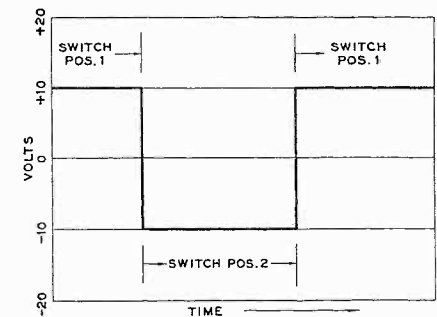

Fig. 2. Chart of the voltage across R.
Let us then draw a horizontal line which represents units of time along its length. Its altitude represents zero potential; positive potentials are drawn above the line, the distance proportional to magnitude, and negative potentials are drawn below the line. A scale along the left-hand margin, if furnished, is calibrated in units of magnitude, and other lines identified by the scale are often supplied. This is shown in Fig. 2. Now we are about to plot the voltage across R, with the potential at the bottom end of R as reference. Suppose we begin the chart while the switch is in position 1. Obviously the voltage at the top of R is +10, and will remain at that value until the switch is moved to position 2. So long as the switch is not moved, the chart is a horizontal line at the +10-volt level that moves to the right as time elapses. When S is snapped to position 2 the voltage abruptly changes to -10, and the chart line must be drawn sharply downward to the -10-volt level. There it remains, moving to the right as time goes on. If the switch is put back into position 1 the voltage reverses polarity almost instantaneously, going back up to +10 volts. Our chart line moves abruptly upward again to the +10-volt line, where we shall let it stay until it moves off the chart at the right-hand end.
In a similar way we can produce resultant curves, which are again approximately straight lines, for other combinations of grid voltages. If the grid input is such as to drive the first grid 10 volts positive from its bias value, that is, to -60 , the same swing will drive the second grid 10 volts negative to -80 , so we can average the currents between these two curves at different combinations of plate voltage and produce another approximation to a straight line for this condition. In this way the whole family of composite curves was produced for Fig. 2.
Fig. 3. This schematic of a push-pull output stage shows the justification for the method of construction employed in Fig. 2. When one grid swings positive of the bias (G) by an excursion (g), the other swings negative by the same amount. Similarly in the plate circuit, when one plate is negative of the mean value (V) by a swing (e), the other swings positive by the same amount.